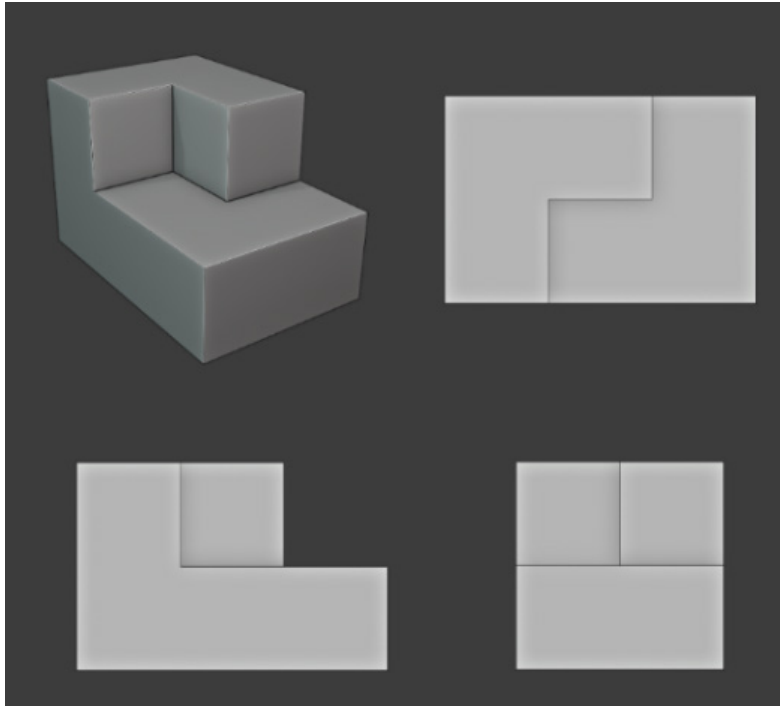

Figure 2.1 – Orthographic projection
*Figure 2.1* is an example of an object in orthographic projection:
Now, the reference is ready for use. This entire process can be repeated multiple times with references from different sides, so it will look like the earlier *Figure 2.1*. Doing so makes it easier to imagine an object from every angle, but it is not a requirement. In this case, using multiple background references isn't necessary, and the side view image is the most important reference.